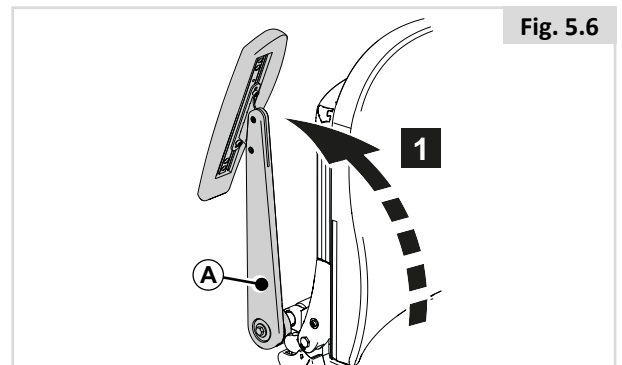

Fig. 5.6
Reclining flip back armrest (Fig. 5.6)
1. Fold (A) to the rear. (Fig.5.6)